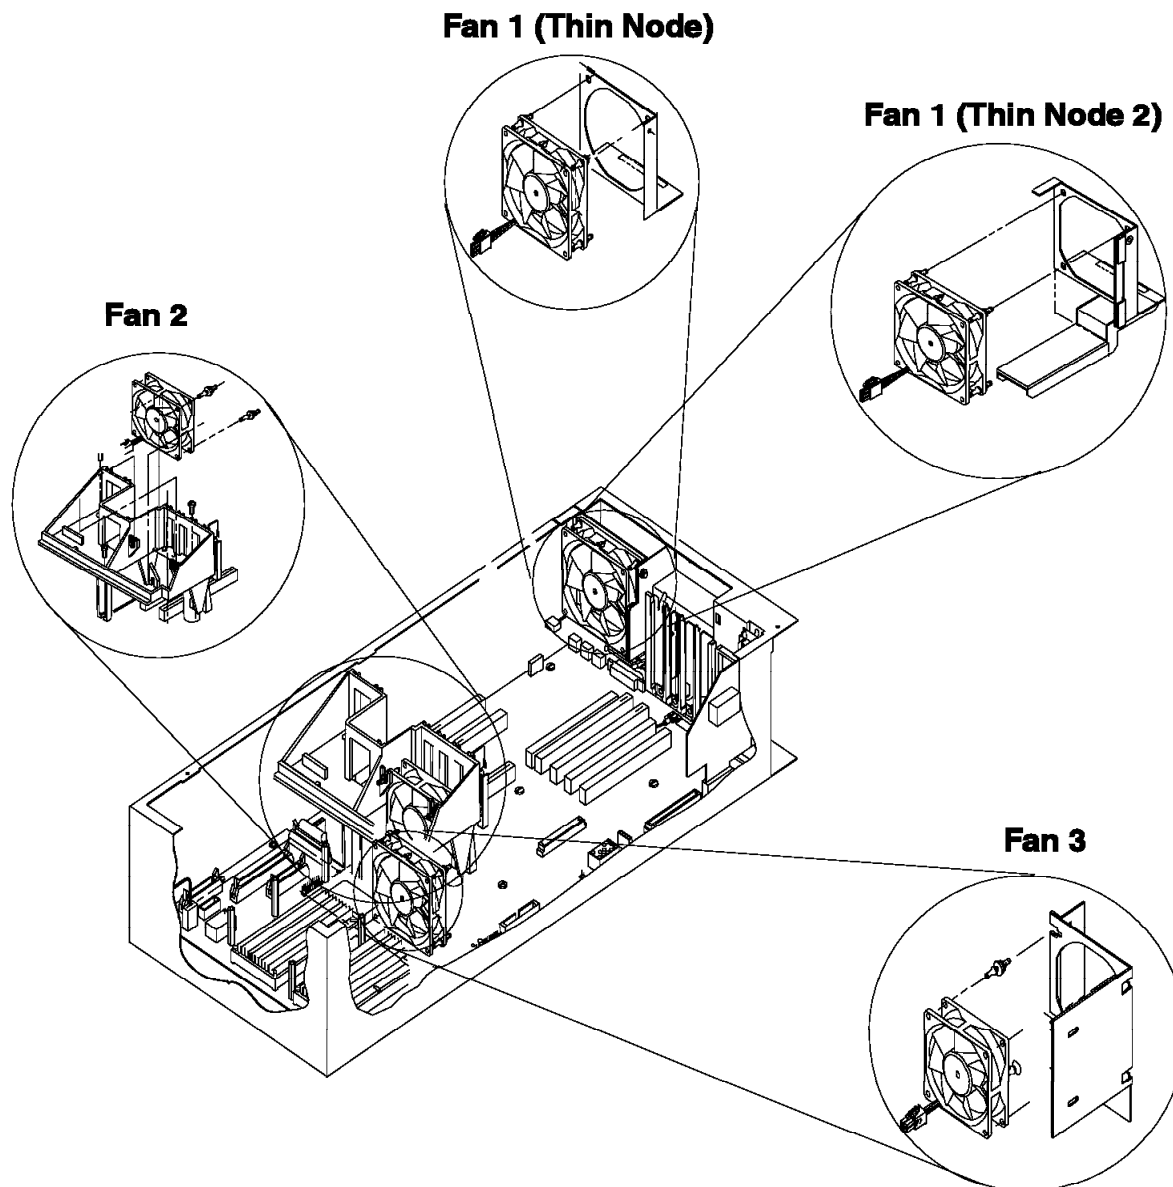

Figure 4-16. Fans 1, 2, 3 assembly
4. Position fan bracket in orientation shown in Figure 4-16, line up bracket edge with chassis guide, then push down to locate.